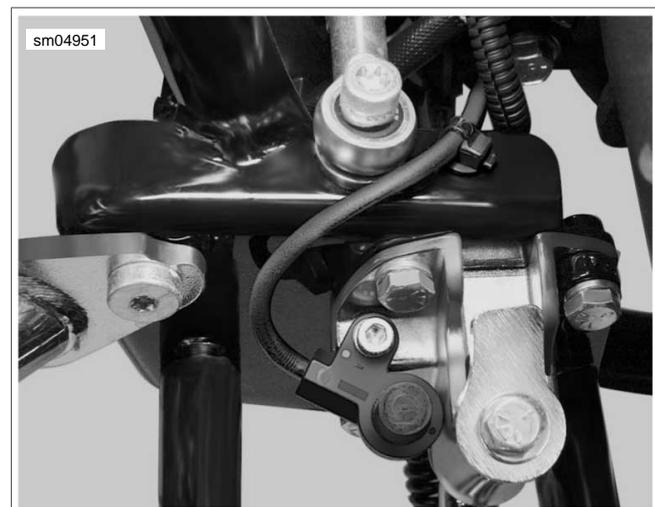

Figure 2-181. Jiffy Stand Interlock Sensor
- Remove socket head screw and pull sensor from bore of jiffy stand bracket. See Figure 2-181.